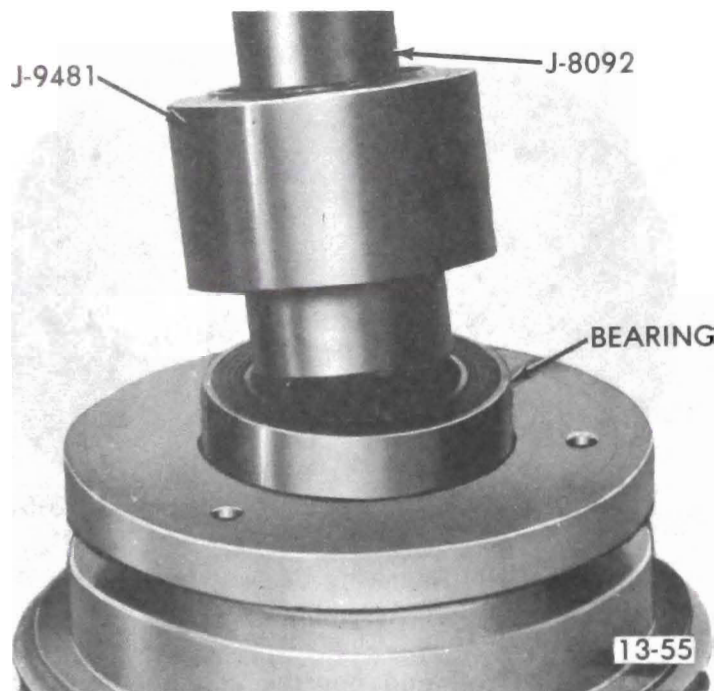

Figure 13-40 Installing Bearing into Pulley Assembly
2. Drive new bearing into pulley assembly (see Figure 13-40) with installer (J-9481) and handle (J-8092).